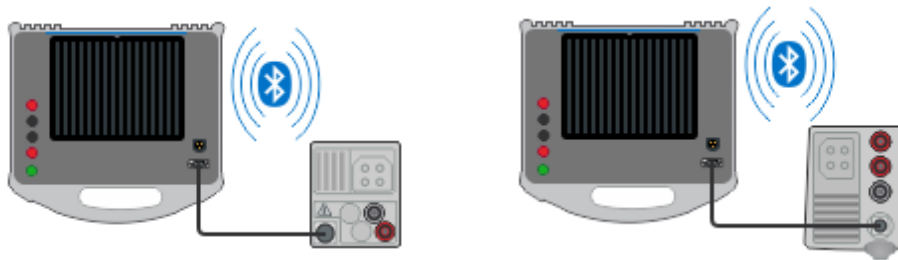

Figure 5.1: Connection of the Euro Z 440 V to the master instrument using RS 232 or Bluetooth (Example of MI 3152 and MI 3155)
- For RS 232 communication, connect serial communication interface cable RS 232_9pin_female / PS 2 to the master instrument and the Euro Z instrument. See *Figure 5.1*.